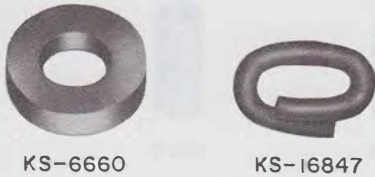

Fig. 3—KS-6660 and KS-16847 Indicators
- Indicator, KS-6660, Fig. 3
- Indicator, KS-16847, Fig. 3
- 7.01** Common protective devices used on special service circuits are shown in Fig. 3 through 18.
Indicators (Fig. 3)